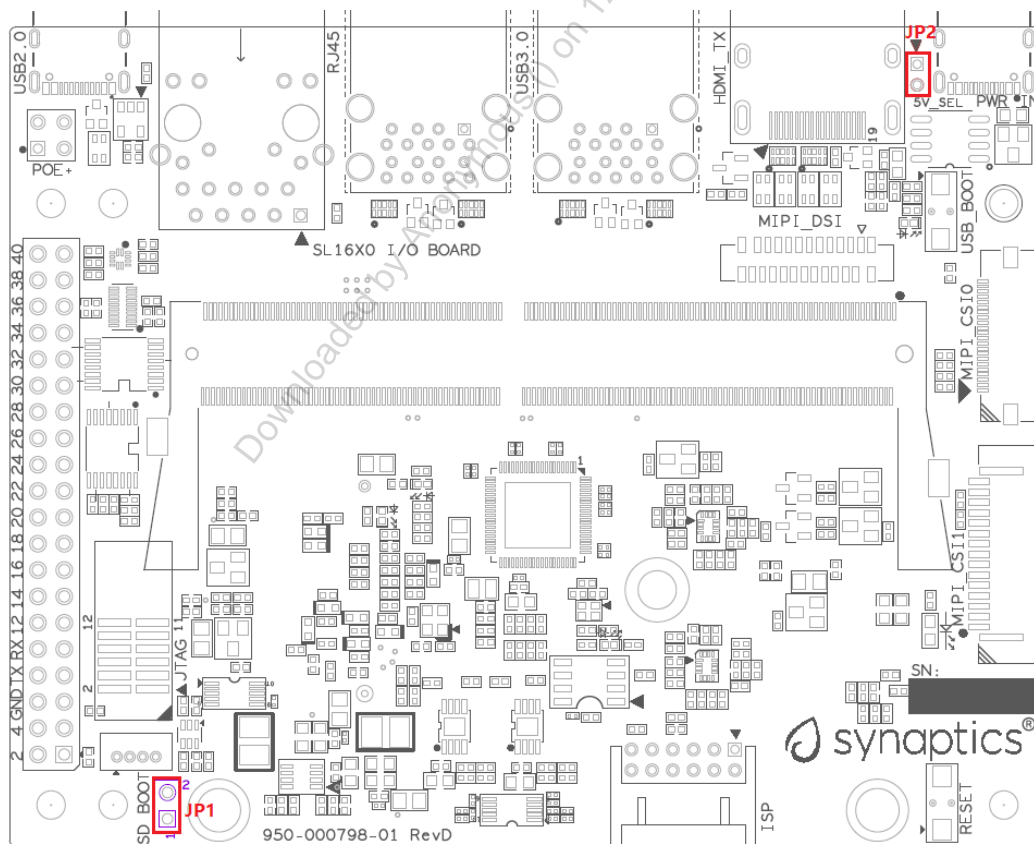

Figure 9. Locations of jumpers on I/O board
- **SD boot:** Short SD_Boot header by 2.54mm jumper-cap before power-up, see SD_Boot header in Figure 9. Ensure SD-Card with firmware is plugged into SD-slot on core module in Figure 10.
Figure 9 shows the Header locations on the I/O board.